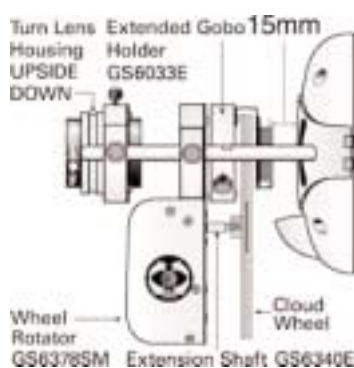

FIG 4
**FIG 4** A Cloud Wheel (FG7045) fitted onto a 1/2 rpm (GS6340) or Variable Speed and Direction Wheel Rotator (GS6378SM) with an Extension Shaft (GS6340E) in front of a window gobo creates the effect of looking at the sky, with the clouds passing by, through a window.